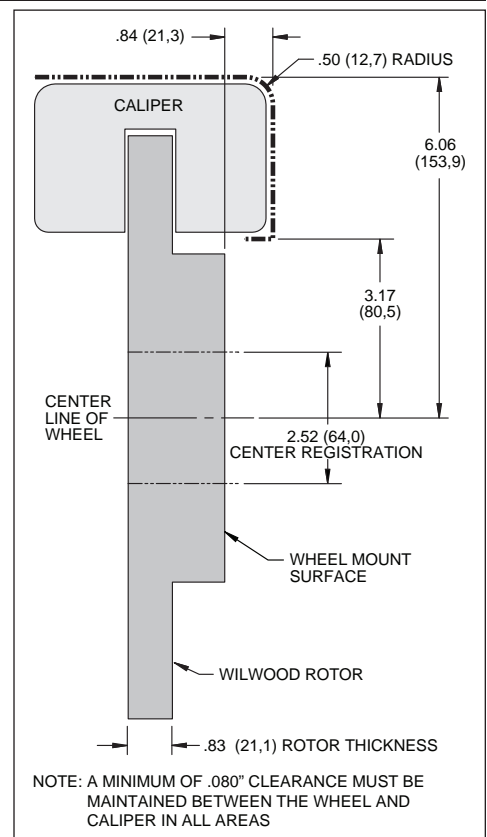

Figure 2. Wheel Clearance Diagram
NOTE: This kit will not work with vehicles equipped with OE 240mm rotors and spindles (even if upgraded to 262mm rotors) due to the lower height of the caliper mount points on these spindles. This kit will require a minimum of 15" diameter wheels and may not fit all OE or aftermarket 15" rims without spacers or special offset replacement wheels. Please verify your wheel clearance using Figure 2, on page 3 of this instruction sheet before attempting installation of this kit.
• Make sure this is the correct kit to fit the exact make and model year. This kit is specifically designed as a direct bolt-on Original Equipment (OE) replacement for Honda / Acura vehicles with 262mm (10.32") diameter rotors.
• Verify your wheel clearance using Figure 2.